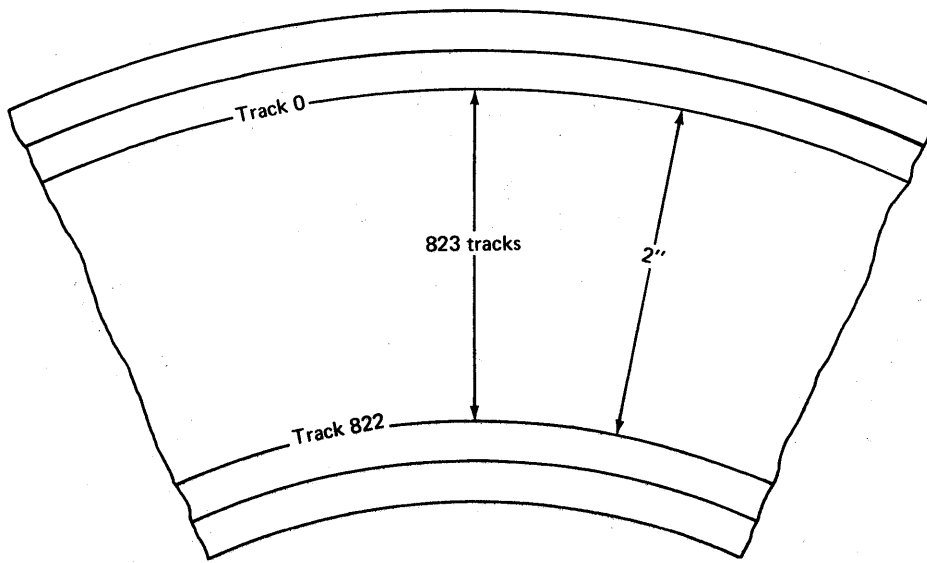

Figure 40. The recordable area of the disk surface
5. Now refer to figure 40. The actual recordable area on the surface of these disks is about two inches. Squeezed into the space of these two inches are 823₍₁₀₎ data tracks. The spacing between these tracks is extremely close, with only .0026 inches between them. The tracks are numbered from 0 through 822₍₁₀₎ starting at the outer edge.